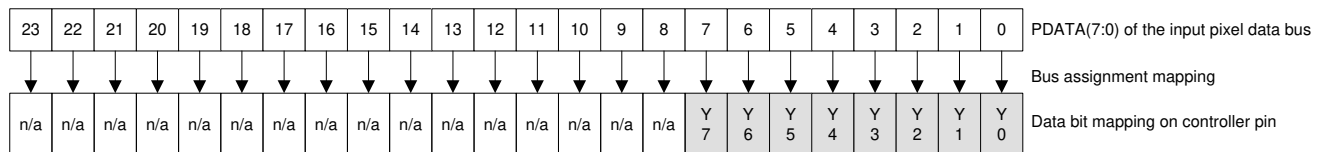

Figure 6-9. BT.656 Interface Mode Bit Mapping
- (1) Calculate clock jitter (in ns) using this formula: Jitter = $[1 / f_{\text{clock}} - 5.76 \text{ ns}]$. Clock jitter must maintain setup and hold times. BT.656 data bits must be mapped to the DLPC34xx PDATA bus as shown in Figure 6-9 shows BT.656 bus mode YCbCr 4:2:2 source PDATA (23:0) mapping.
- (2) The BT.656 interface accepts 8 bits per color, 4:2:2 YCb/Cr data encoded per the industry standard through PDATA(7:0) on the active edge of PCLK (that is programmable). See Figure 6-9.